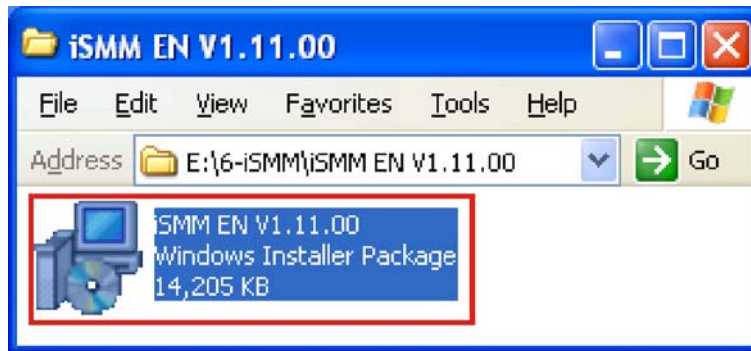

Figure 6-30: iSMM Installation File
Step 5: The contents of the directory are displayed. (Figure 6-30)
Step 6: Double click the **iSMM EN V1.11.00** setup file.(Figure 6-30)